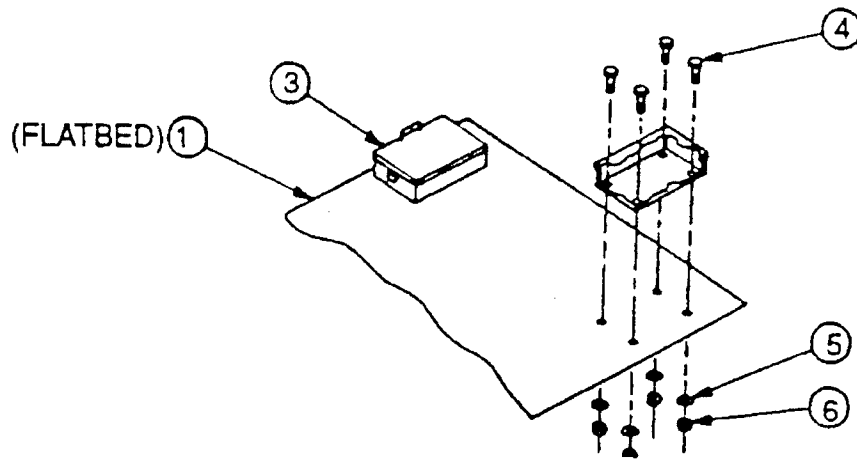

Figure 4-1 Accessories Stowage Box Installation.
(a) Place stowage boxes (3, Figure 4-1) on the two existing 4-hole patterns on the flatbed trailer (1, Figure 4-1) (forward, curbside and roadside areas of trailer).
(b) Attach boxes to flatbed using four bolts (4) four washers (5), and four nuts (6) Figure 4-1.